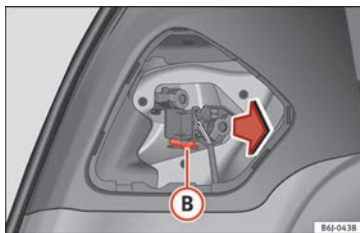

Fig. 112 Removing the bulb holder.
- Remove the bulb holder by pressing the fastening clip **(B)** **»» Fig. 112** and pulling it outwards.